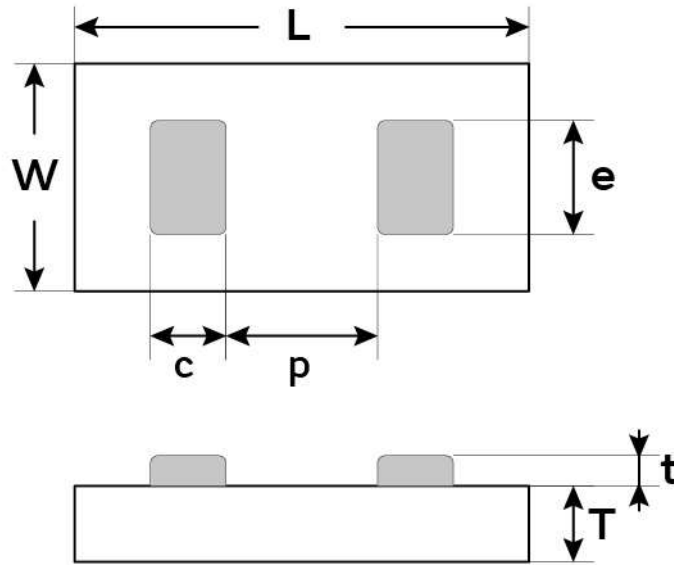

Figure 7 - Package outline drawing
- (1) Other Film Frame Carrier are possible on request
- (2) SAC = ENIG + SAC305 type 6 or ENIG = 0.1µm Au / 5µm Ni
- (3) missing capacitors can reach 0.5%
- (4) Refer to Figure 7